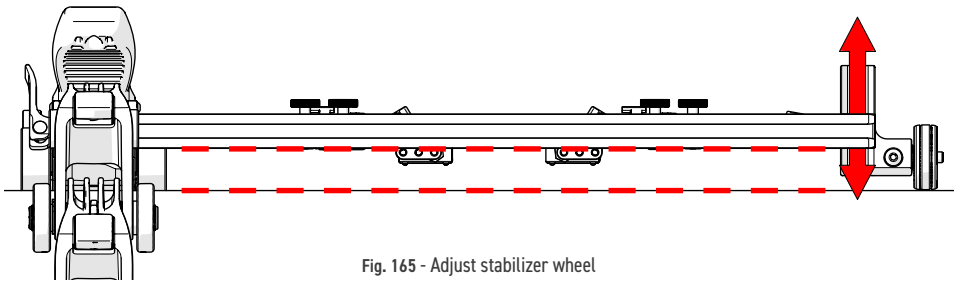

Fig. 165 - Adjust stabilizer wheel
11. Adjust the stabilizer wheel (Fig. 165) to align the frame bar parallel with the scan surface. (see *Stabilizer Wheel* on page 24).